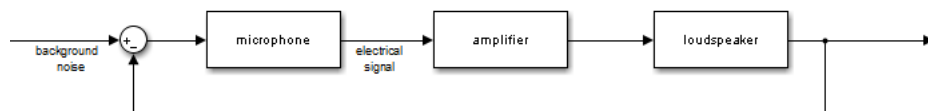

Figure 9.7: How audio feedback occurs.
**Example 9.8.** Audio feedback (or “howl”) is an example of positive feedback. Surely you must have heard it often, whenever there is a sound system amplifying the sound detected by a microphone which is too close to the loudspeakers, so that even background noise is amplified to the point of being received again by the microphone and amplified further — see Figure 9.7. The amplitude of the resulting sound does not become infinite because at some point the amplifier and/or the loudspeakers saturate, but the “howl” can damage the equipment or, more importantly, the listeners’ auditory systems.  $\square$